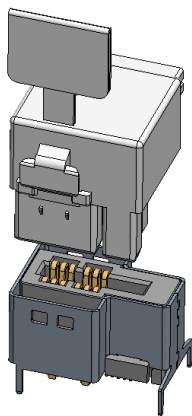
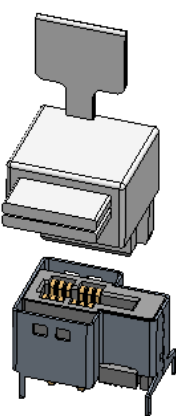

Figure 4-14 RA 21A Power Cable Application
Figure 4-15 RRA 21A Power Cable Application
2. A single Power cable to plug into the Vertical 21A Power connector as shown in Figure 4-14 or Figure 4-15.